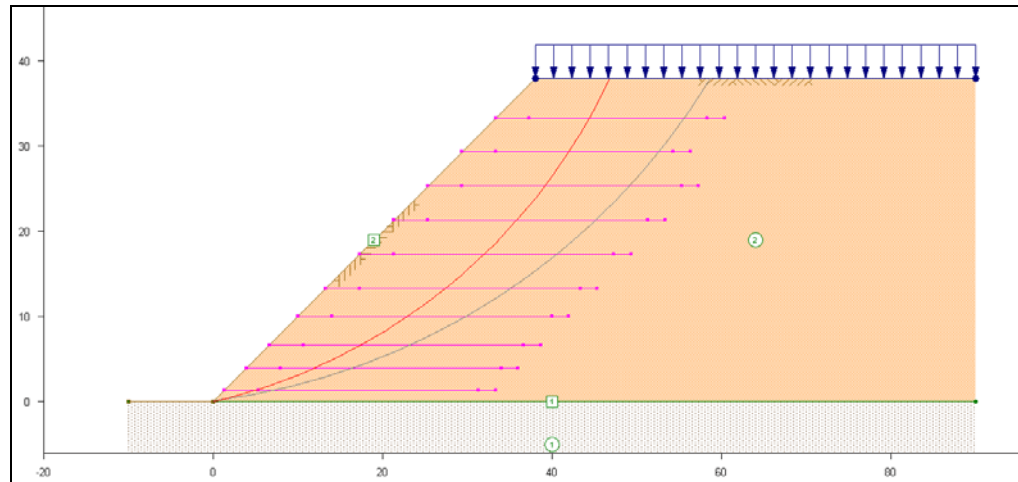
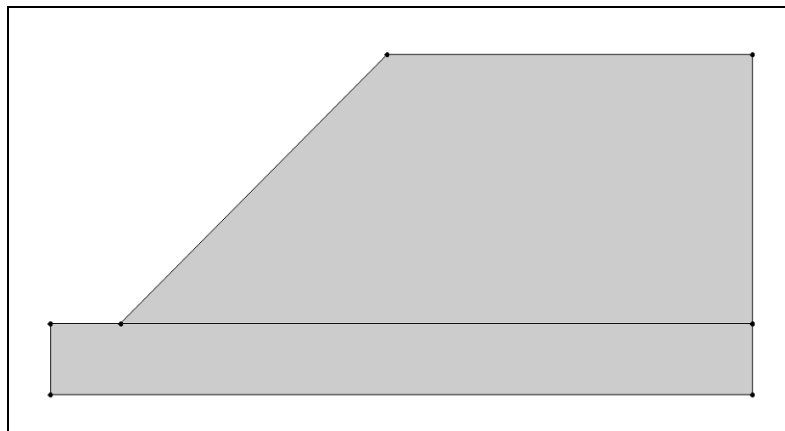

Figure 1. A reinforced slope. From the UTEXAS4 tutorials.
Figure 3. The basic slope.
The problem is illustrated in Figure 1. A fairly steep embankment is subjected to loading. The slope has several reinforcement elements to help strengthen it against failure. Reinforcement elements include geotextiles, nails, piers etc.
In this tutorial, we'll be examining a reinforced embankment problem that looks like the one shown in Figure 1 above. This is what you will do:
3. Using Figure 1 as a guide (or Figure 3 below), click on the points to connect them with arcs to create the slope.
At this point you should see something like Figure 3 below.